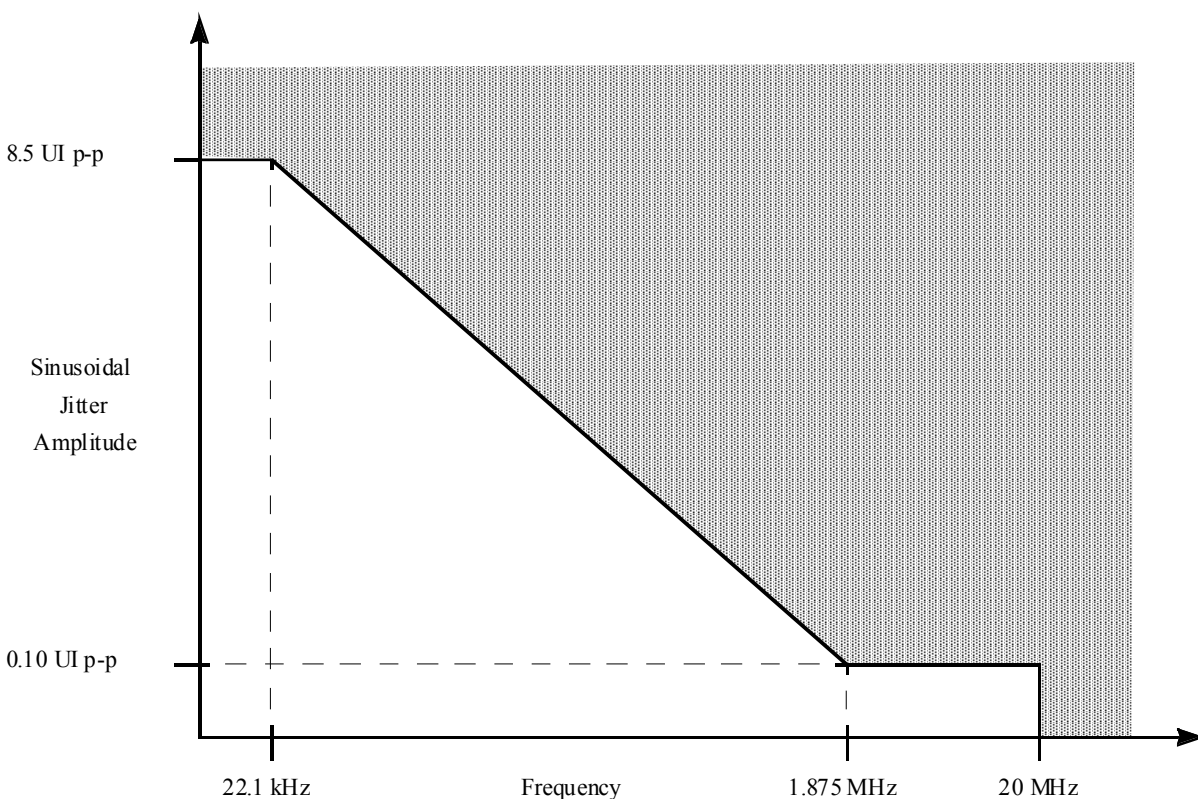

Figure 22. Single Frequency Sinusoidal Jitter Limits
2. See Figure 22 for single frequency sinusoidal jitter limits
The sinusoidal jitter in the total jitter tolerance may have any amplitude and frequency in the unshaded region of Figure 22.